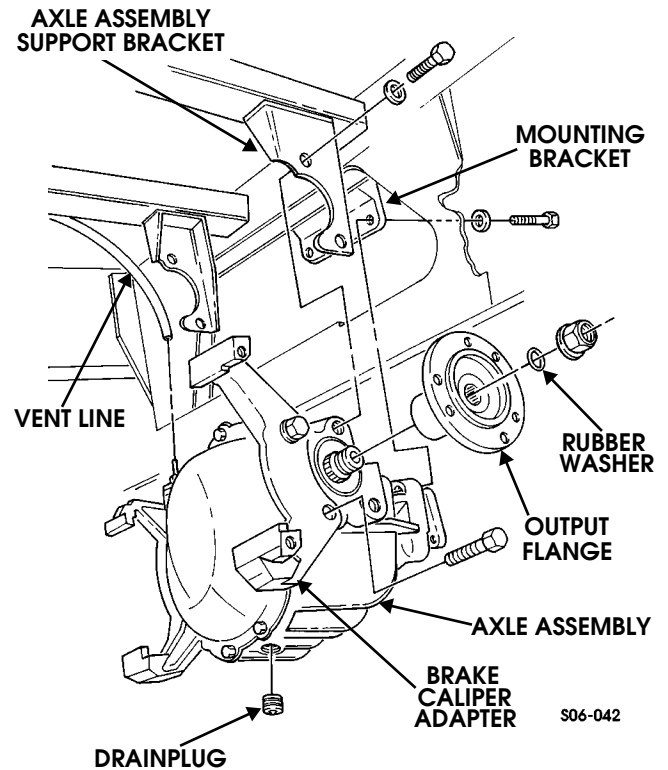

Figure 9-54: Rear Axle Assembly Mounting
2. Remove drainplug from axle assembly. Allow oil to drain and install drainplug (Figure 9-54).
5. Remove two bolts and washers securing axle assembly to mounting bracket (Figure 9-54).